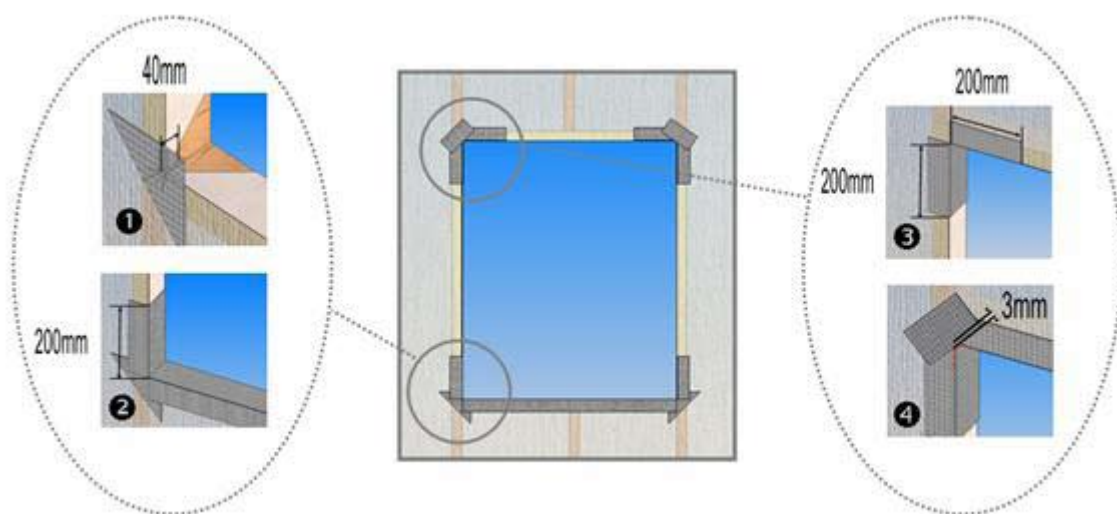

Figure 1.0: Installation
13.3 A 150 mm x 150 mm square of FrameFlash™ tape must be cut into two equal triangular pieces (CornerGuards). The CornerGuards must be installed into the bottom corners of the frame opening with a 40 mm apex fitted neatly into the sill/jamb junction of the frame. The remaining CornerGuard material is to be folded flat against the outside face of the building wrap. Refer ● in Figure 1.0 below
13.4 A length of FrameFlash™ must be cut to the length of the sill plus 400 mm. The tape is installed flush with the interior face of the opening and is applied along the entire length of the sill and 200 mm up each jamb. The overhanging tape is cut at the corner of the opening to allow the tape to be folded onto the face of the building wrap. Refer ❷ in Figure 1.0 below
13.5 A 400 mm length of FrameFlash™ must be installed 200 mm down the jamb and 200 mm along the lintel at each of the top corners of the window or door joinery opening. Refer ❸ in Figure 1.0 below. A 75 mm wide x 150 mm long sealing tape 'butterfly' must be installed at 45° across the corner of the head/jamb junction overlapping the corner by 3 mm to create a seal at the corner junction. Refer ❹ in Figure 1.0 below